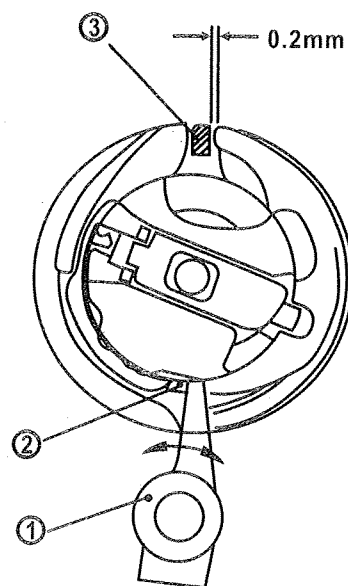

Fig.22
1. Turn the machine pulley until the opener (①, Fig. 22) presses the projection of hook (②, Fig. 22) extremely on its travel.
2. Press the opener to the projection of hook and make the right side clearance between the notch on the bobbin case holder and the tab of the hook retainer (③, Fig. 22) 0.2mm as shown Fig. 22